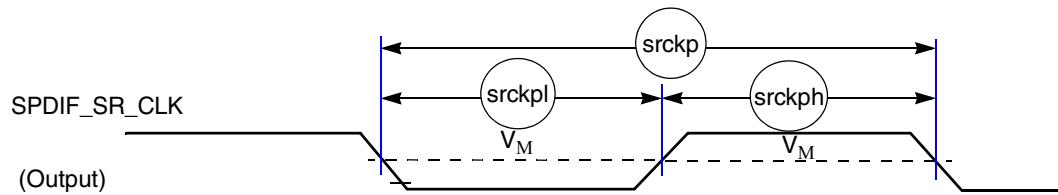
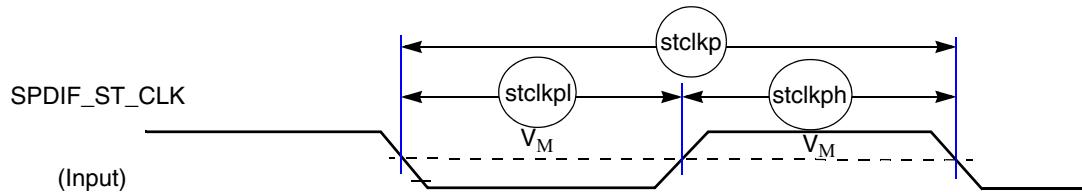

Figure 87. SPDIF\_SR\_CLK Timing Diagram
Figure 88. SPDIF\_ST\_CLK Timing Diagram
**Table 61** and **Figure 87** and **Figure 88** show SPDIF timing parameters for the Sony/Philips Digital Interconnect Format (SPDIF), including the timing of the modulating Rx clock (SPDIF\_SR\_CLK) for SPDIF in Rx mode and the timing of the modulating Tx clock (SPDIF\_ST\_CLK) for SPDIF in Tx mode.